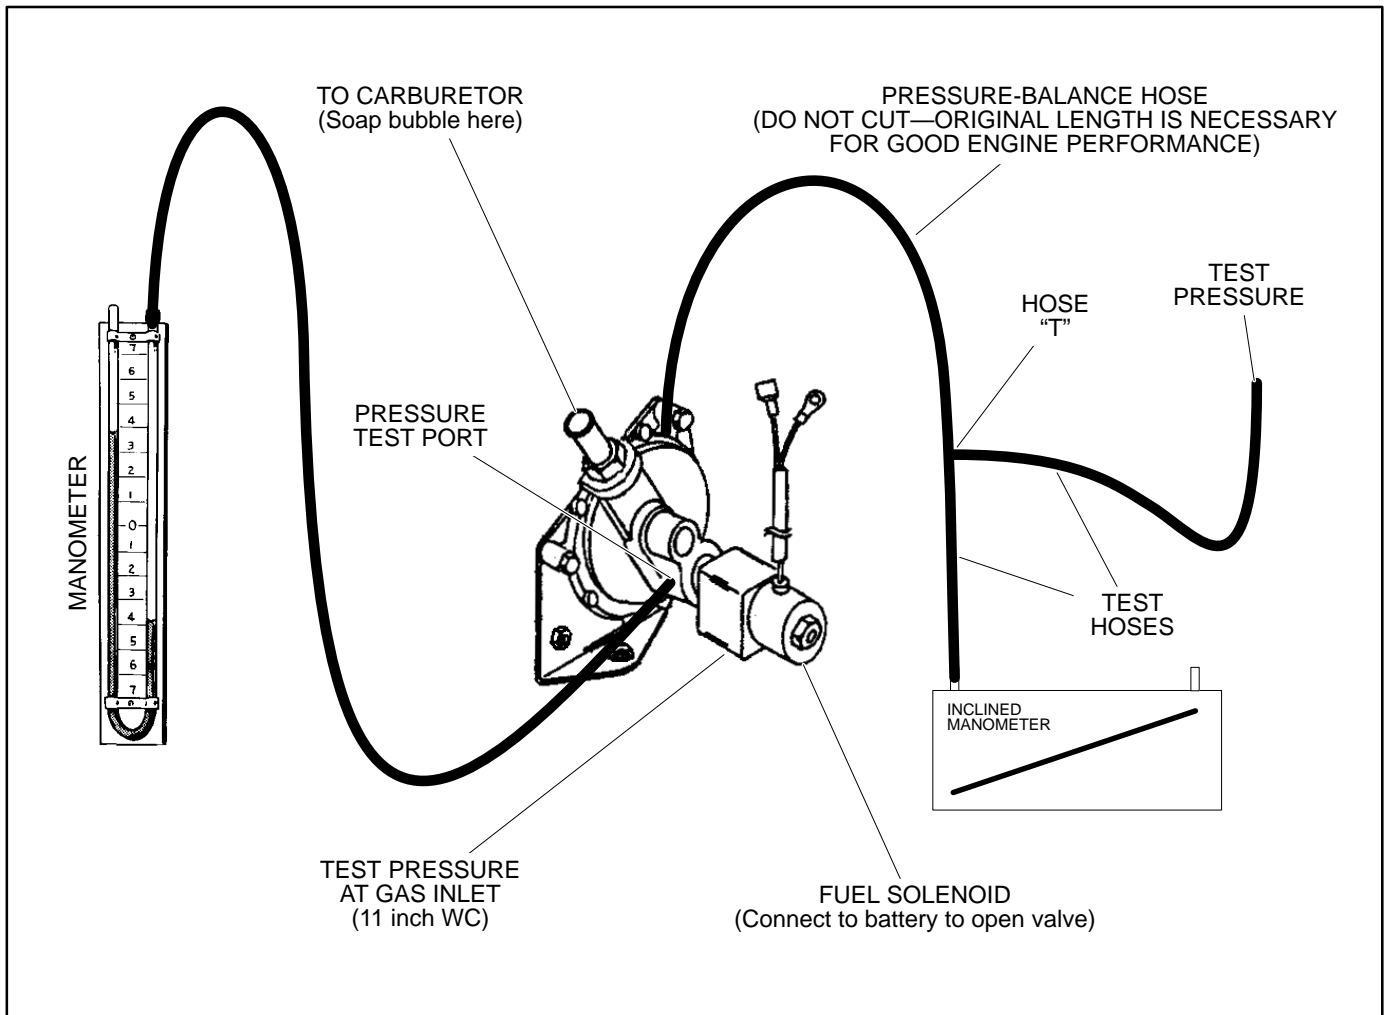

FIGURE 23. APPARATUS FOR GAS SUPPLY PRESSURE AND REGULATOR LOCK-OFF PRESSURE TESTS
See Figure 23. Gas supply pressure must be maintained at 6-13 inches (152-330 mm) water column (WC) for natural gas and 9-13 inches (229-330 mm) water column for LPG. Adjust the supply pressure as follows:
See Figure 23. Determine lock-off pressure as follows: